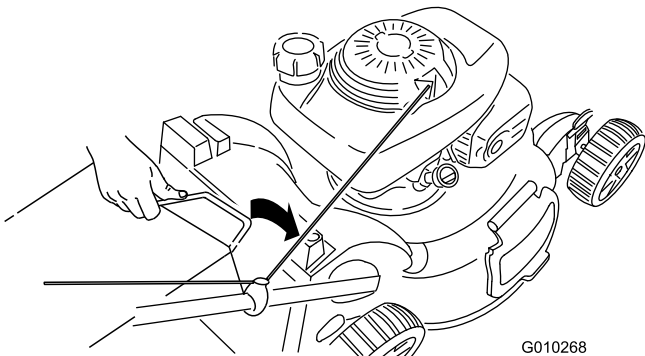

**Figure 28**
2. Lift the grass-bag handle out from the grooves at the top of the machine, and remove the bag from the machine (Figure 28).